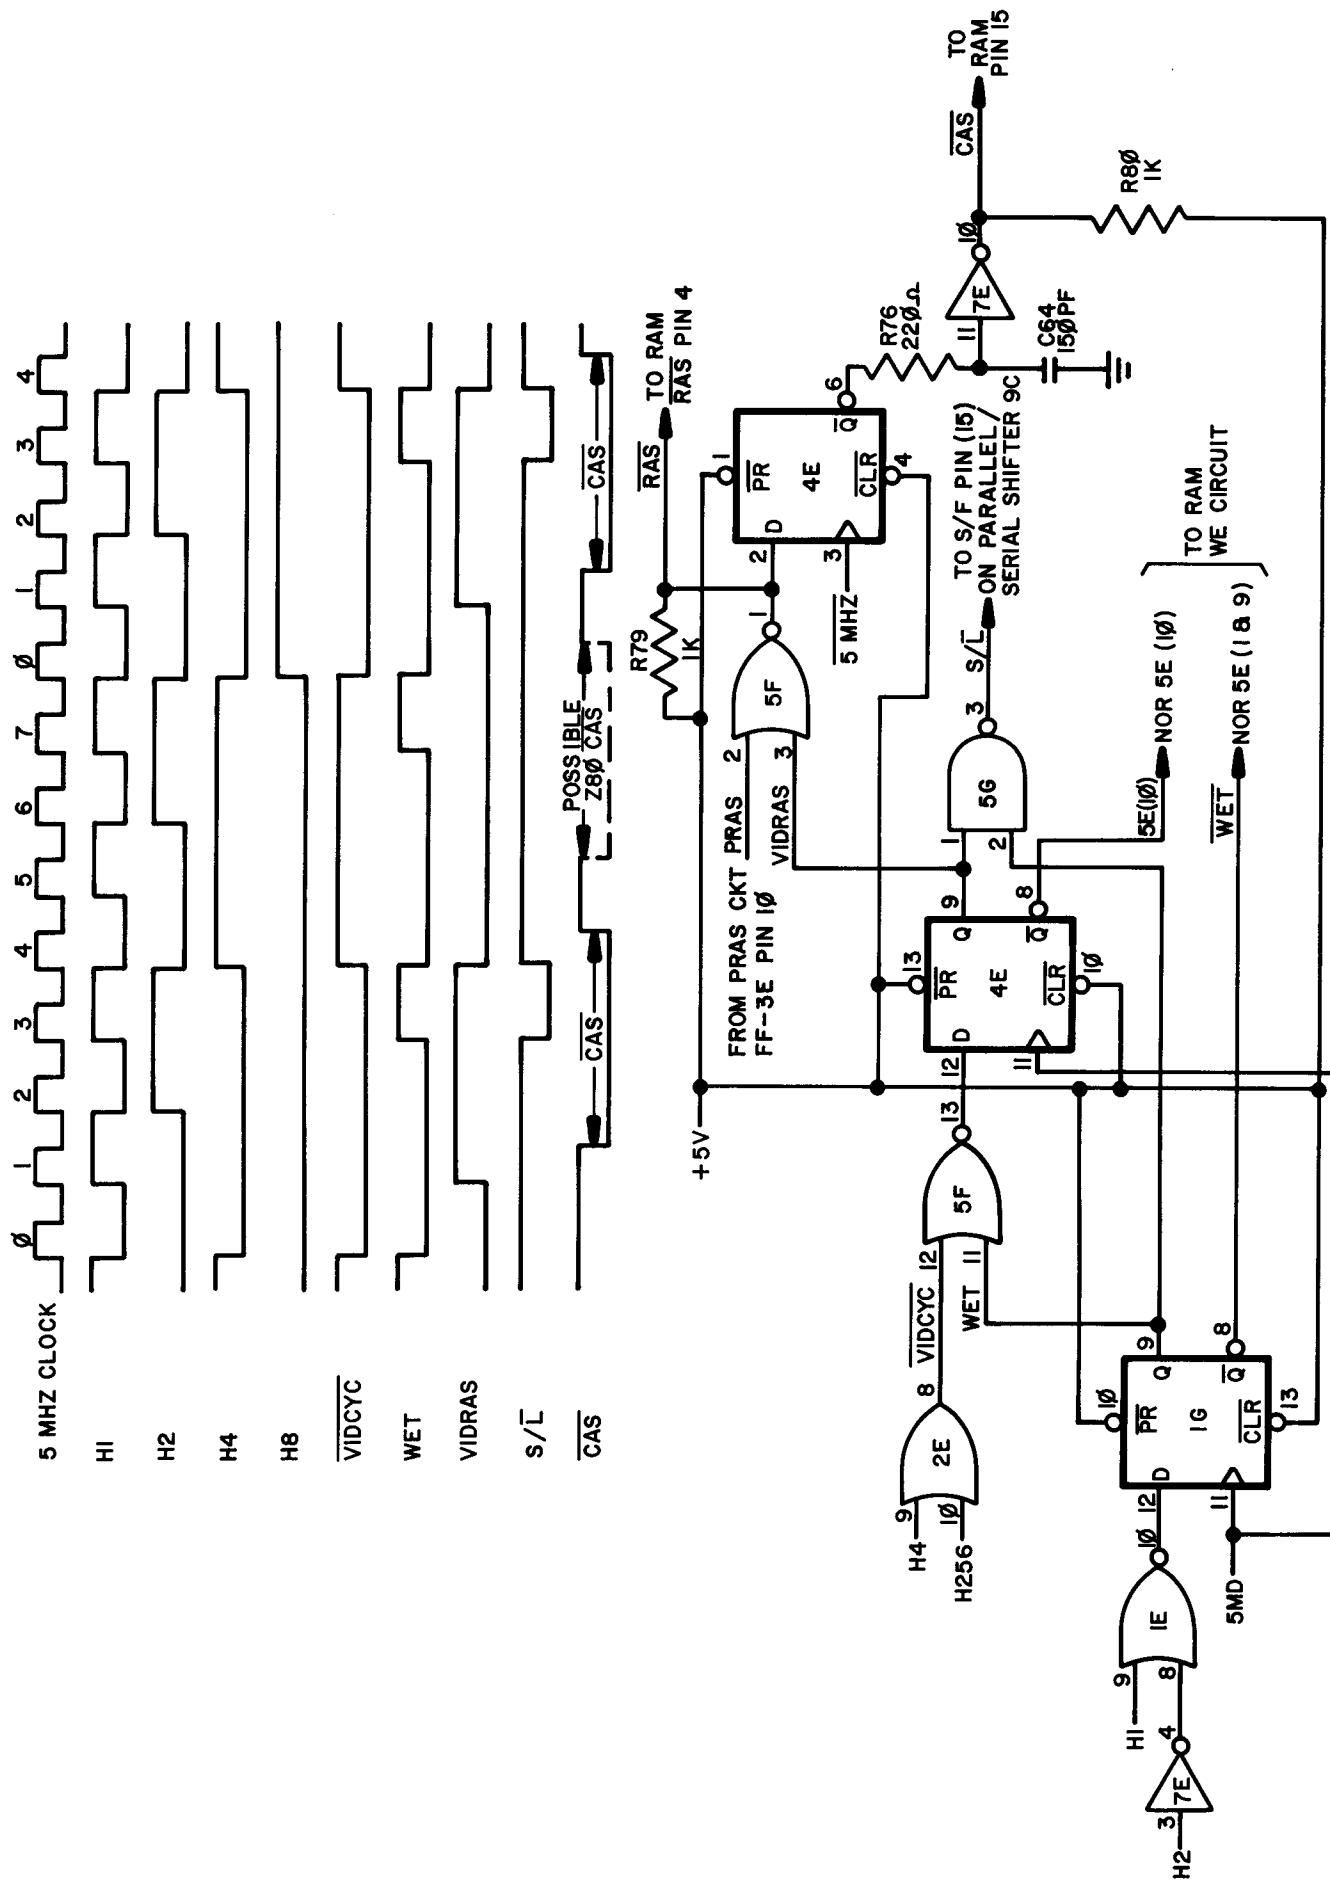

FIGURE 3-9 VIDCYC, RAS, CAS, WET, S/L CIRCUITS/WAVEFORMS
The VID CYC\* waveform controls the B pin of MUX 6F, 6G and 6H while the CAS signal controls the A pin. The VID CYC\* signal changes state every 4 bits of every byte clocked out to the monitor. Therefore, during each single byte of the video signal, multiplexers 6F, 6G, 6H will perform up to four switching functions. The RAM latches 6-bits of the address at two different time periods as shown by the selection code chart. The first 6-bits of either the video or the Z-80 cycle are latched into RAM by the falling edge of the RAS\* waveform while the second 6-bits are latched into RAM by the falling edge of the CAS\* waveform. Waveforms are shown in Figures 3-9 and 3-10. The CAS\* waveform is a RAS waveform delayed by flip flop 4E, R76, C64 and inverter 7E. The RAM chips contain the necessary internal circuits for latching the two separate addresses and then restoring the full 12-bit code.
Figure 3-9 shows the gates and flip flops associated with the waveforms required during VIDRAS operation. Two basic waveforms are generated: VIDCYC\* and WET (WRITE ENABLE TIME). The VIDCYC\* uses the binary count of H4. This waveform is operable until the end of each horizontal CRT line at which time H256 becomes a logical 1 and disables circuits using VIDCYC\* for 12.8 microseconds (horizontal retrace blanking time).
Figure 3-10 shows the gates and single flip flop of the Z-80-RAS waveform generator. The action is clarified by starting at NAND gate 3F which requires 3 logic HI (1) inputs for a logic 0 output. When a 0 output does occur, it will pass thru OR gate 2E with no change when H1 is low, be inverted by NOR gate 5F to a 1 with MREQ\* true, and then be applied to the J input of JK flip flop 3E. The PRESET pin of 3E is tied to +5V for a logic HI and allows the CLEAR pin to control the reset action. The CLEAR pin is driven LO after a Z-80 OP-CODE FETCH by the RFSH\* line, which CLEARS the FF with Q(Z-80-RAS) at LO (logic 0). The logic 1 from NOR gate 5F will cause the Q output(Z-80-RAS) to go HI after being clocked by the 5M signal. This HI applied to pin 2 of NOR gate 5F (5F is on Figure 3-9) will be inverted to produce RAS\*.